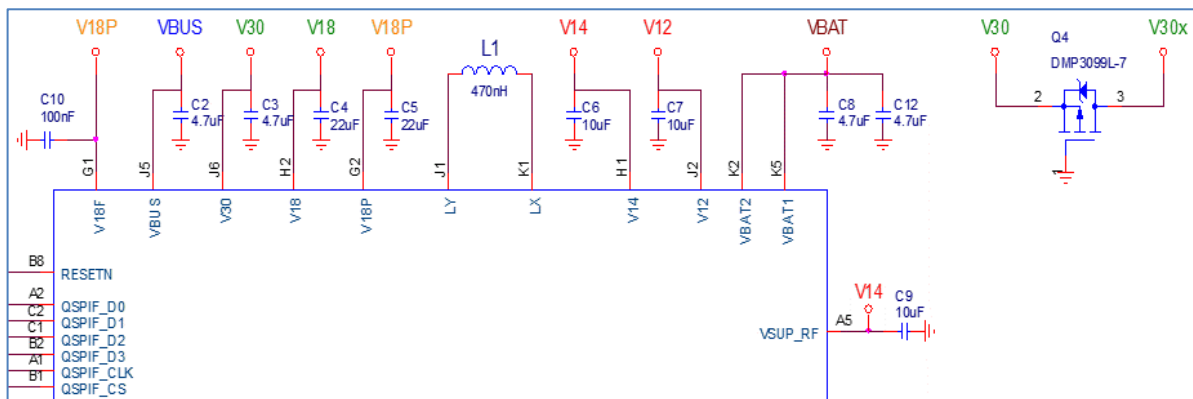

Figure 6: Power Section of DA1469x SoC
The DA1469x SoC contains internally all power management for proper and safe system operation. Figure 6 shows the required external components, like the decoupling capacitors and the power inductor.
VBAT2: This is the input supply pin for the SIMO DCDC buck converter. VBAT2 must be connected externally to VBAT1 (Figure 6). A 4.7 μ F/10 V decoupling capacitor (C12) is required to be placed near the VBAT2 pin (0402 package).
- As a solution, a P-Ch MOSFET (Q4) having a gate-source threshold voltage of about -2 V to -1.5 V may be added in series with the V30 rail to power the external loads. This prevents the V30 rail voltage will drop below 1.5 V. See Figure 6
With the LDO_VBAT being bypassed, this V30 LDO is not loaded anymore. As such the external P-Ch MOSFET to protect the LDO_VBAT against large overload currents is not required anymore. Q4 shown in Figure 6 can be omitted. This V30 to VBAT connection method is strongly advised for VBAT supply voltages lower than 2.4 V, down to 1.9 V which is the minimum allowed supply voltage for the V30 rail. For VBAT voltages higher than 3.3 V, this connection method does not have an advantage anymore, and it is advised to connect the DA1469x SoC in the standard way as shown in Figure 6. The VBAT BOD (BOD_VBAT_EN) may be disabled, since the system still is protected by the BOD on the V30 rail which has the same voltage as the VBAT supply. The VBAT BOD must be disabled when the VBAT supply voltage is equal to or lower than 2.4 V, or when it can be expected that the VBAT voltage could drop below 2.4 V. If the V30 rail voltage can become lower than 2.0 V, the level value of the V30 BOD (BOD_LVL_V30) must be adapted to comply with the lower V30 rail voltage.